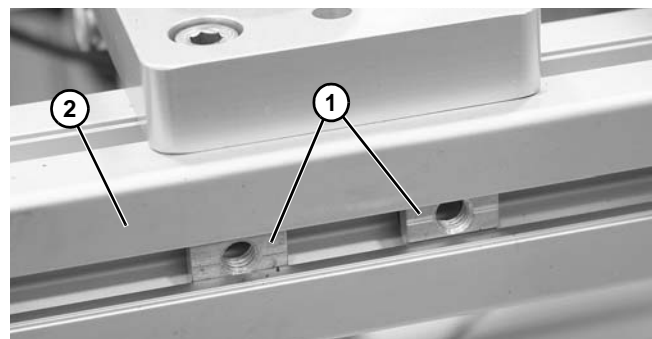

**Figure 59**
1. Loosen lock nut (**Figure 59, item 1**) on shock absorber (**Figure 59, item 2**) next to cylinder.